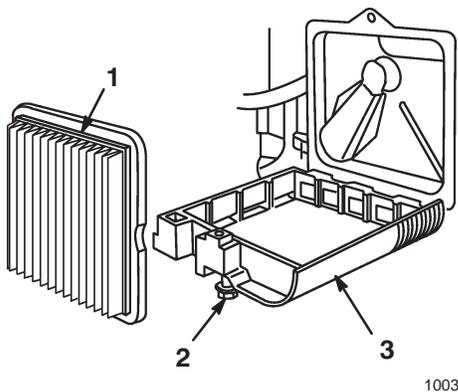

Figure 19
- Loosen the screw that secures the air filter cover to the engine (Fig. 19).
- Tilt the air cleaner cover down and clean the cover thoroughly (Fig. 19).
- Remove and discard the paper air cleaner filter (Fig. 19).